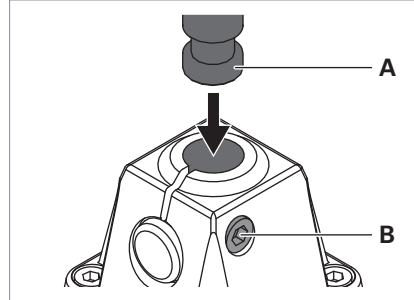

Fig. 3: Mounting the luminaire to the fastening element.
- ▶ Unscrew the screw **B** from the fastening element, see Fig. 3.